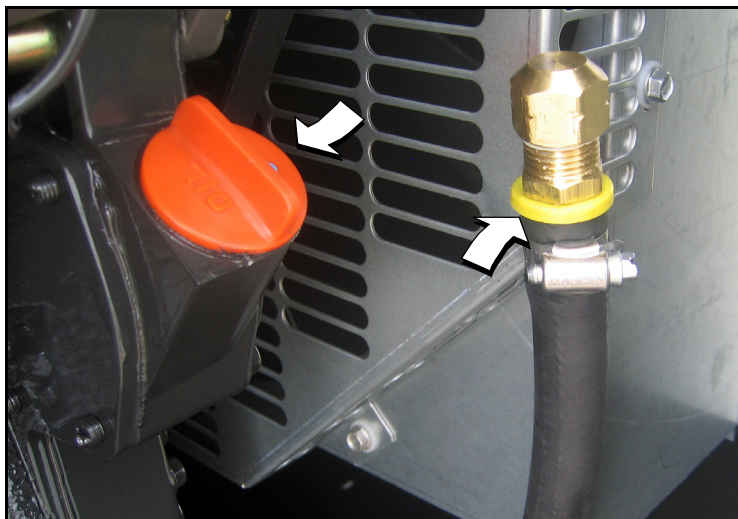

Figure 5-17. Oil Fill Cap and Drain Hose
1. Remove oil drain hose from holding clamp. See Figure 5-17.